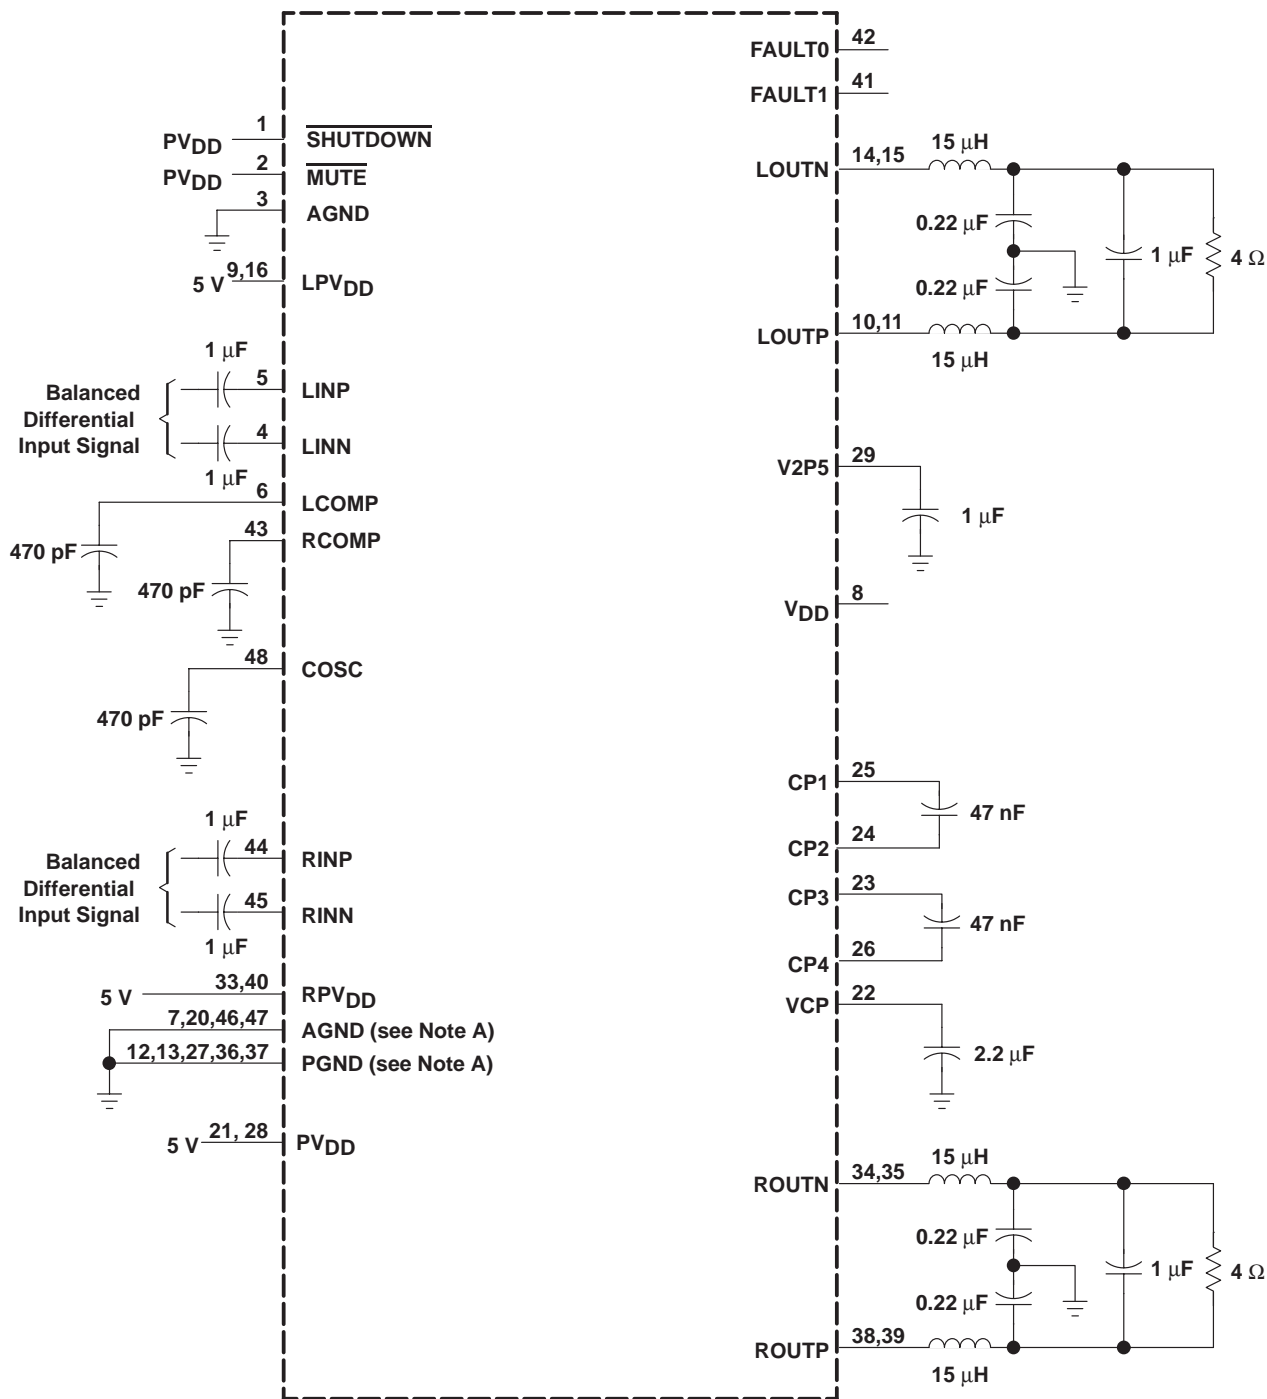

Figure 1. 5-V, 4-Ω Test Circuit, Class-D Amplifier
**electrical characteristics, Class-D amplifier,  $V_{DD} = PV_{DD} = LPV_{DD} = RPV_{DD} = 5\text{ V}$ ,  $R_L = 4\ \Omega$ ,  $T_C = 25^\circ\text{C}$ , See Figure 1 (resistive load) (unless otherwise noted)**
**operating characteristics, Class-D amplifier,  $V_{DD} = PV_{DD} = LPV_{DD} = RPV_{DD} = 5\text{ V}$ ,  $R_L = 4\ \Omega$ ,  $T_C = 25^\circ\text{C}$ , See Figure 1 (unless otherwise noted)**